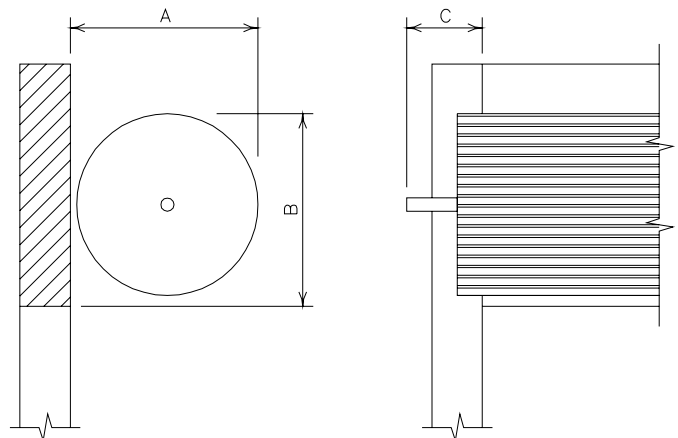

Figure 1
- Clearances? (Reference Figure 1)